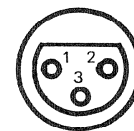

Fig. 7.2.-3
4. Connect the line outputs of channel 1 **16** and channel 2 **36** in such a way that they are in opposite phase and in series with each other and strap the AF millivoltmeter across them. fig. 7.2.-2.
6. Connect the two line outputs CH I **16** and CH II **36** in series in phase with each other and strap the AF millivoltmeter across. fig. 7.2.-3.